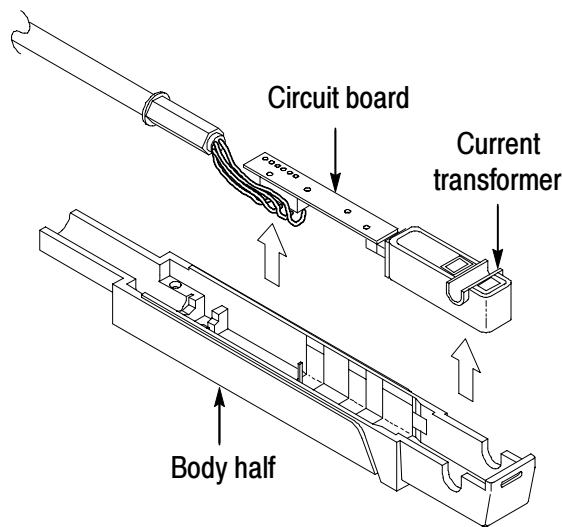

Figure 28: Removing the Current Transformer
6. If you want to replace the current transformer, lift the transformer out of the probe as shown in Figure 28, and pull it out of the circuit board socket. The circuit board may be removed by lifting out the strain relief and the circuit board from the body half.